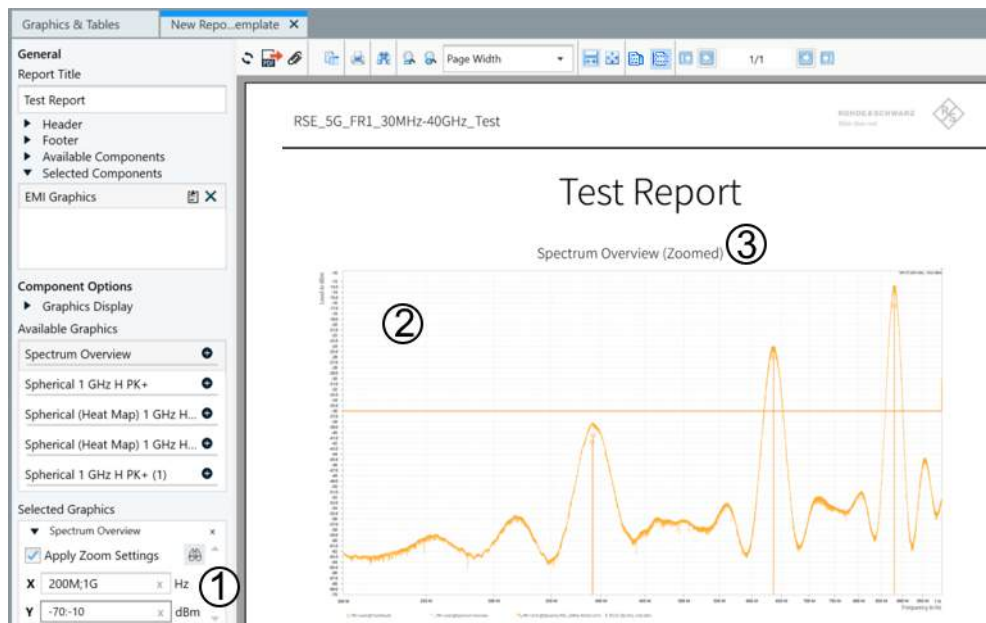

Figure 4-125: A test report with a chart that has correct zoom parameters configured
- To let your settings take effect for the report, enable the "Apply Zoom Settings" checkbox (1 in Figure 4-125).